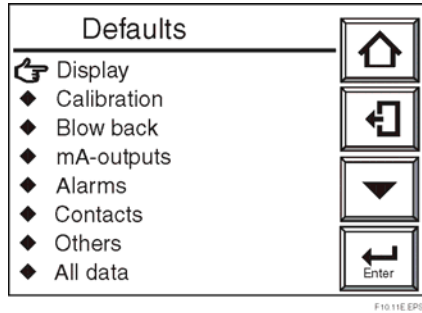

Figure 10-11 Defaults Display
3. Choose "Defaults." The "Defaults" display screen shown in Figure 10-11 appears.